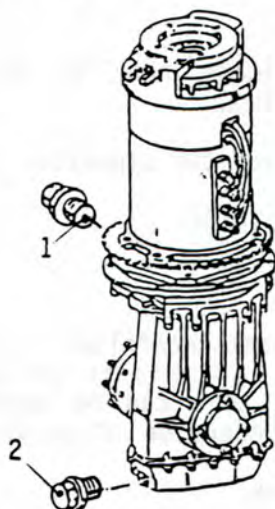

Fig. 24 Changing Transmission Oil
1.1.2 Remove the drain plug (2 Fig. 24) on the underside of the transmission and drain oil.
1.2.1 Replace drain plug (2 Fig. 24) and tighten.
1.2.2 Remove filler/level plug (1 Fig. 24) from the top of the transmission.
1.2.3 Using clean transmission oil, fill the transmission to the oil level hole (1 Fig. 24).